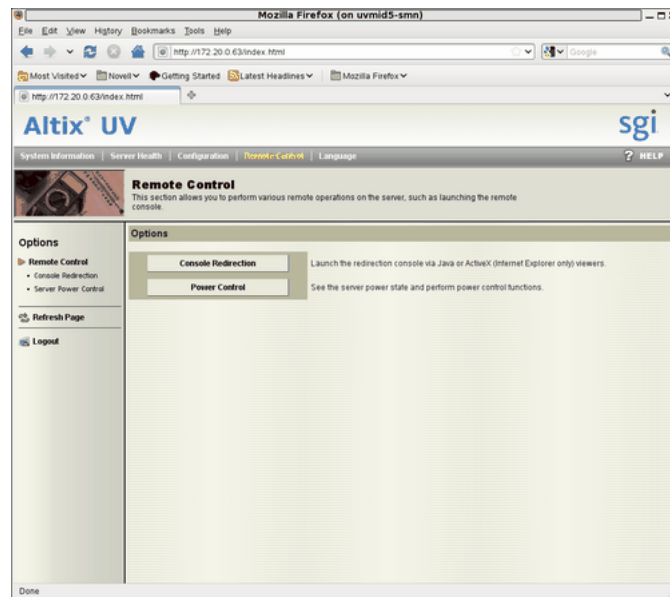

Figure 3-3 BMC Remote Control Screen
6. The **Remote Control** screen appears, as shown in Figure 3-3 on page 40. Click on the **Console Redirection** button.